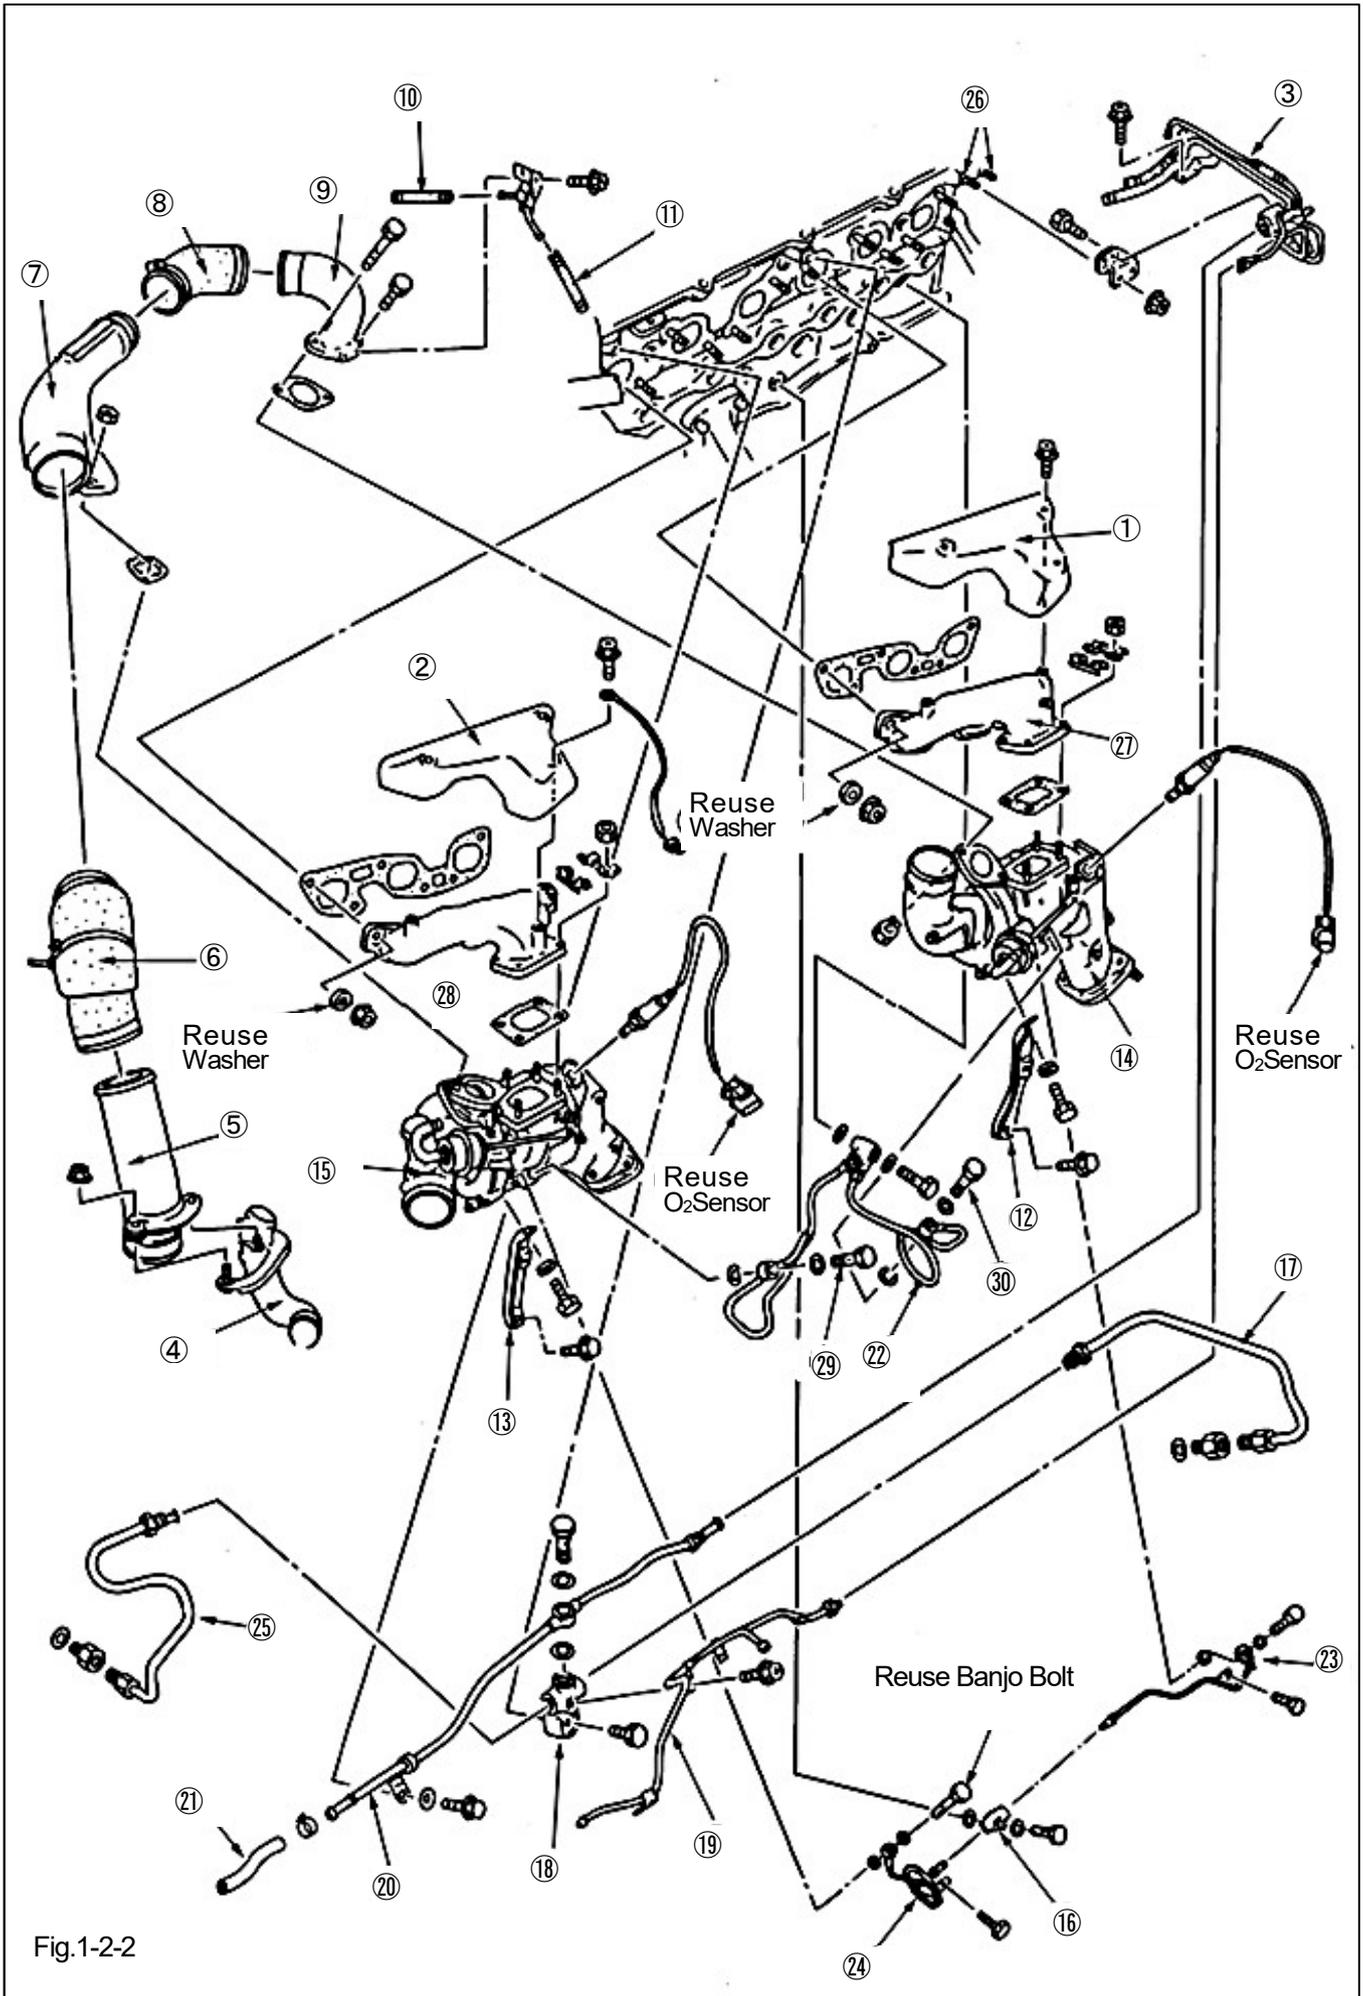

Fig.1-2-2
(2) Remove in order of ① to ③⑩. (Fig. 1-2-2)
(3) Attach the Plug M14 to the engine block where the Banjo Bolt has been removed in Fig. 1-2-2 ②. (Fig.3-1-3)
- Reuse Banjo Bolt (Removed in Fig. 1-2-2) x 1
- Reuse Washer (Factory Parts removed in Fig. 1-2-2) x 12
(5) Install the Turbocharger Stay Collar at the point where Fig.1-2-2⑩ has been removed while through the guide hole on the Turbocharger Stay. (Fig. 3-6-2)